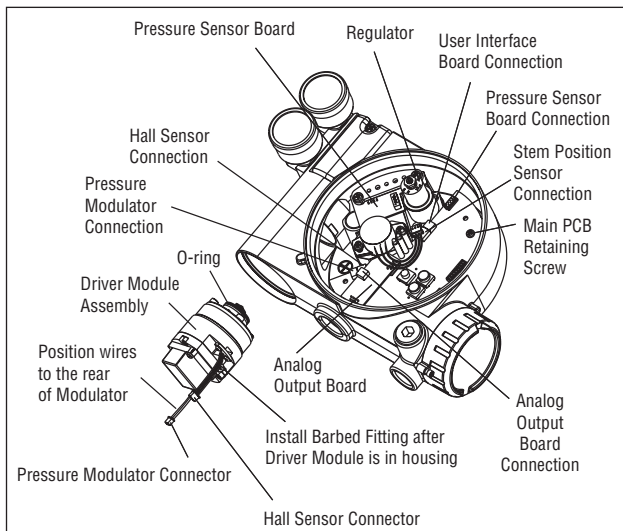

Figure 14: Driver Module Assembly
13. Feed the two wires on the driver module back into the driver module compartment so that they stick out the driver module opening (see Figure 14). This will allow the driver module to thread out without tangling or cutting the wires.
16. Verify that the O-ring is in place on the top of the new driver module. Lay the wires back along the side of the driver module as shown in Figure 14 and hold the wires in position by hand.
To replace the regulator, refer to Figures 14 and 18 and proceed as outlined below. The following tools are required:
7. Remove the four screws from the regulator base. Verify that as regulator is removed, the O-ring and filter remain in the counter-bore (please see Figure 14).